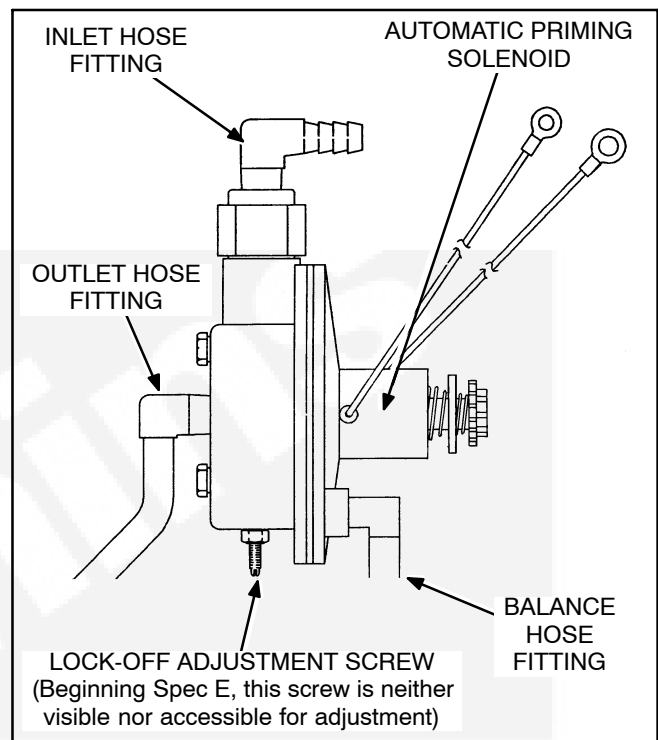

FIGURE 8-24. DEMAND REGULATOR WITH AUTOMATIC PRIMING SOLENOID
The demand regulator assembly supplies fuel to the carburetor. It is usually not the cause of fuel system problems. All other possible causes should be checked out before adjusting or replacing the demand regulator assembly. Figure 8-24 illustrates the regulator with priming solenoid used prior to Spec L on Model KV or Spec B on Model KVD. The demand regulator on later models does not have a priming solenoid.
1. Connect the regulator inlet (Figure 8-24) to a source of air pressure regulated to 11 inches WC.